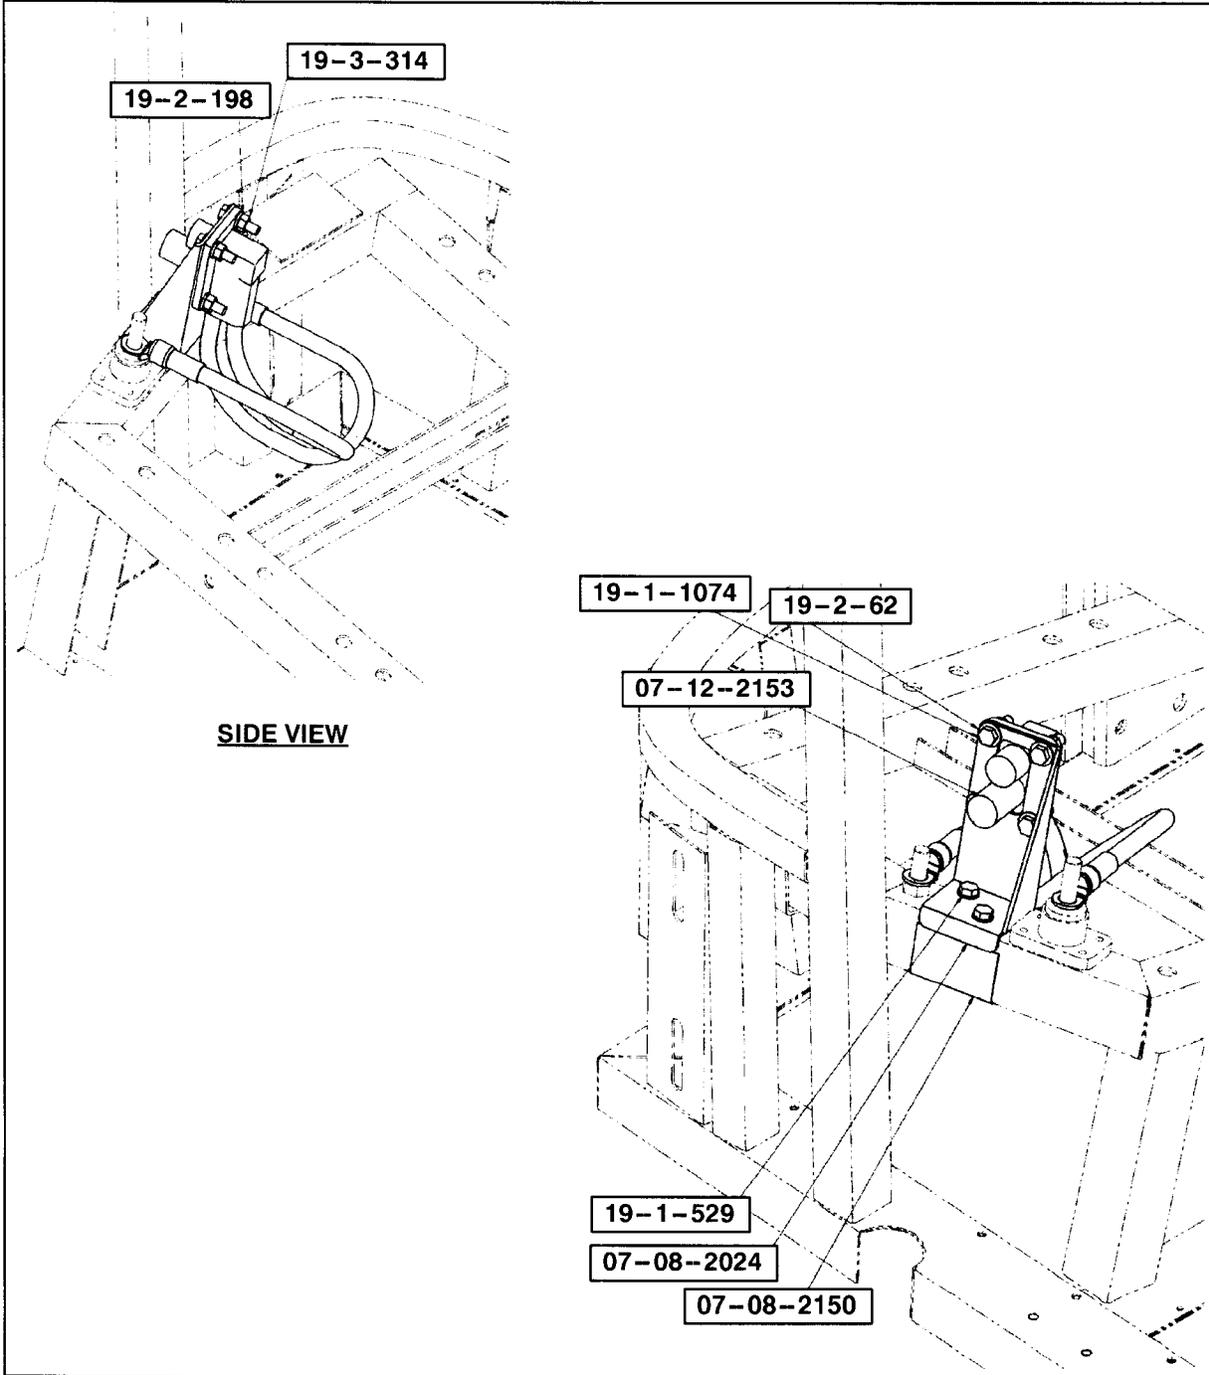

Figure 2.
7. Secure the connector assy (p/n 07-12-2153) to the mounting bracket (p/n 07-08-2024) using the hardware provided in the Parts list (p/n 19-1-1074, 19-2-198, 19-2-62 and 19-3-314) (Figures 2 and 3).